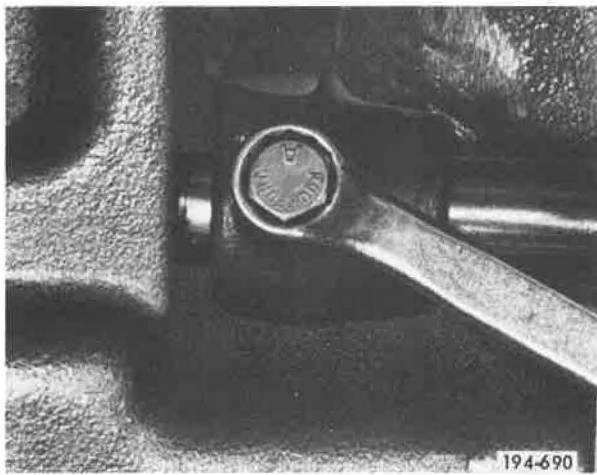

Figure 5-325. Removing Setscrew
2. Remove reverse shifter setscrew. See Figure 5-325.